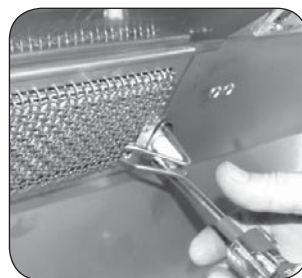
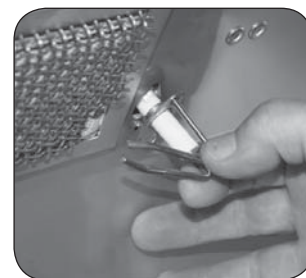

Fig. 28-3
Fig. 28-4
- Remove the backburner electrode mounting screw (1/4" hex) (see Fig. 28-3) and loosen the electrode. Carefully pull the electrode assembly slightly from the grill wall to give enough clearance for the backburner to be removed (see Fig. 28-4).